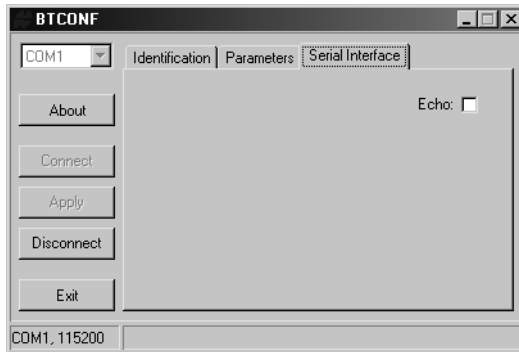

Figure 2-39. BTCONF Serial Interface Tab
9. Click the **Serial Interface** tab (Figure 2-39). Enable Echo to display Bluetooth module replies and corresponding commands on the computer terminal. If needed, click **Apply**.